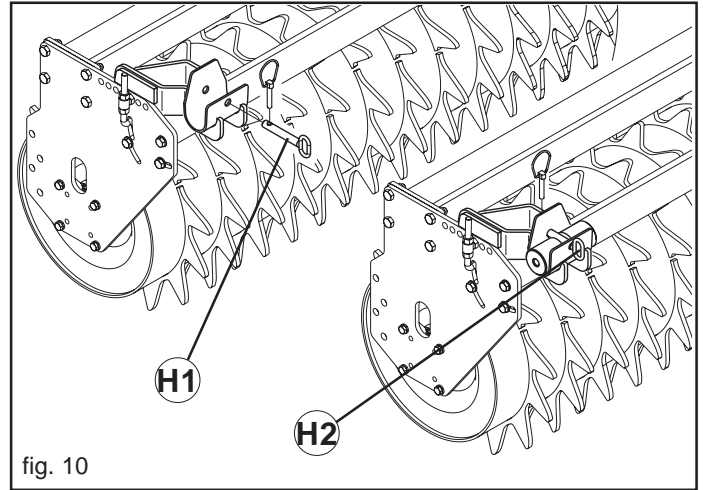

fig. 10
- 2) Replace the snap pins and release the safety pins (H1, Fig. 10).
- 4) Replacing the safety pins with the suitable locking pins (H2, Fig. 10).